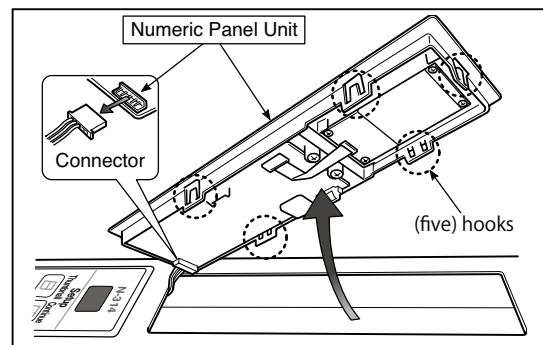

Fig.14
### 7) Remove the Back Panel Unit. (See Fig. 14)
### 7) Remove the Numeric Panel. (See Fig. 14)
1. Push the (five) hooks of the resin shown in Figure 14 and remove the Numeric Panel Unit on the front side.